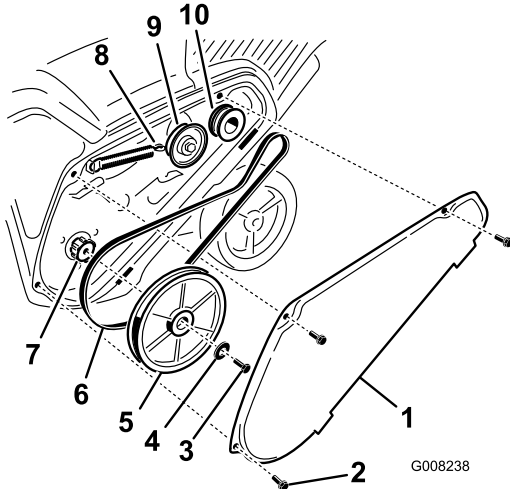

Figure 34
1. Remove the drive-belt cover by removing the 3 bolts as shown in Figure 34.
2. Unhook the brake spring from the idler arm to release the belt tension (Figure 34).
3. Remove the screw and curved washer that holds the rotor pulley (Figure 34).
4. Remove the rotor pulley and the drive belt (Figure 34).
Note: Route the new drive belt first around the engine pulley, then the idler pulley, and finally around the loose rotor pulley positioned just above the rotor shaft (Figure 34).
6. Install the rotor pulley onto the rotor shaft (Figure 34).
7. Install the curved washer and the rotor pulley bolt and tighten them securely (Figure 34).